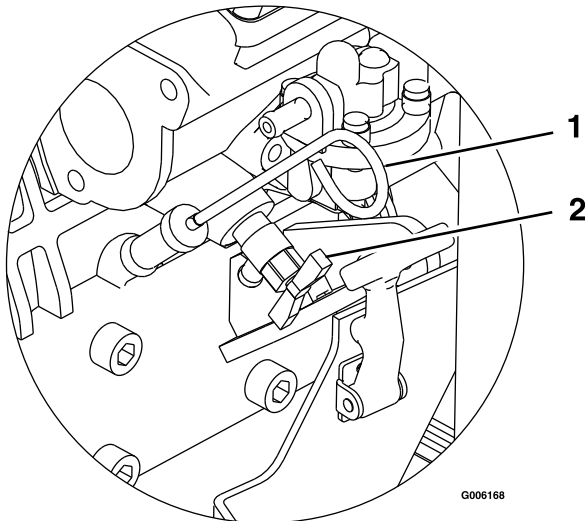

Figure 17
3. Drain coolant when engine is cool. Coolant may be drained from the radiator by removing the drain plug in the right rear corner. The engine block may be drained by removing the rear radiator hose and/or by opening the drain cock on the right-hand side of the engine block (see Figure 17).